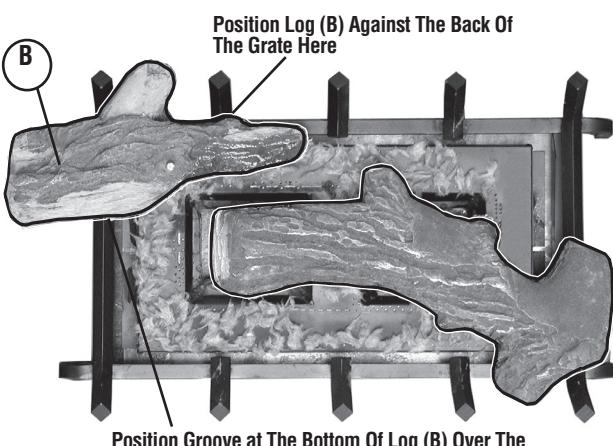

Figure 52
7. Place Log (B) as shown in Figure 52.